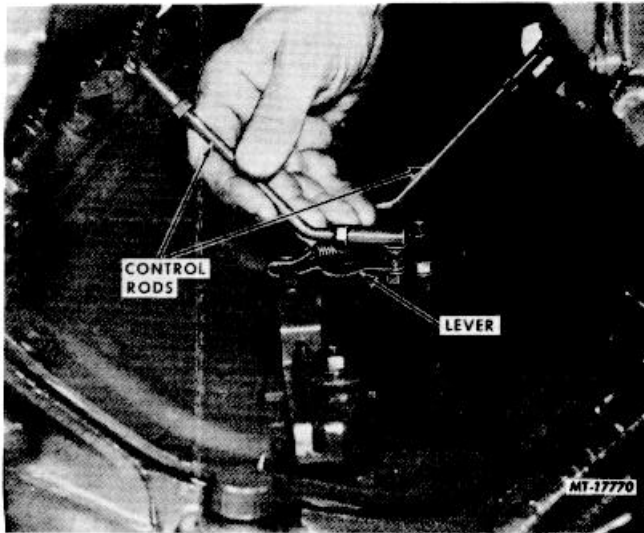

Fig. 37 Disconnecting Swirl Destroyer Linkage (Early production engines only)
30. On engines equipped with swirl destroyer, unsnap swirl destroyer linkage from ball stud at intake manifolds (Figure 37).